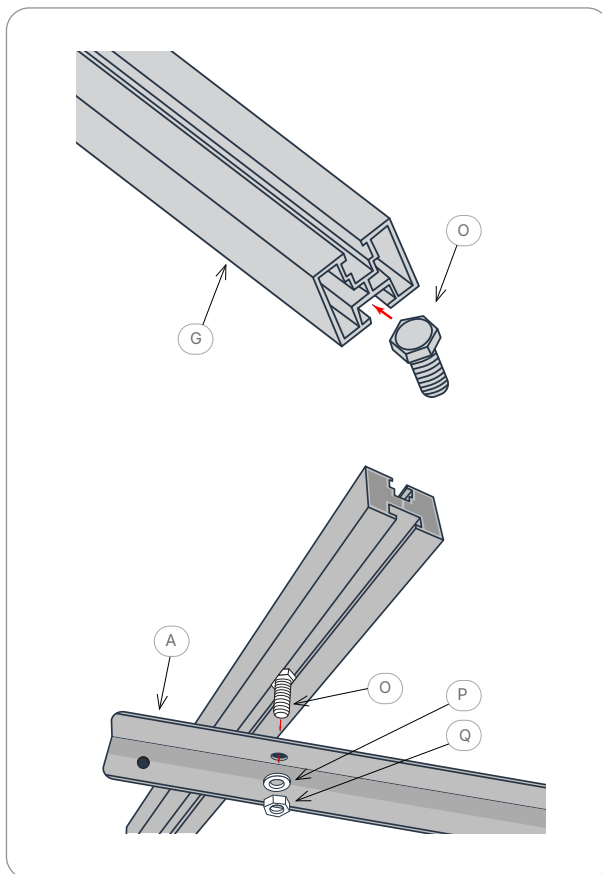

Figure 6. Installation of Carrier and Tilt Bracket.
Install the **Solar Panel Profile (G)** using **(O)**, **(P)**, and **(Q)**, refer to **Figure 6**.